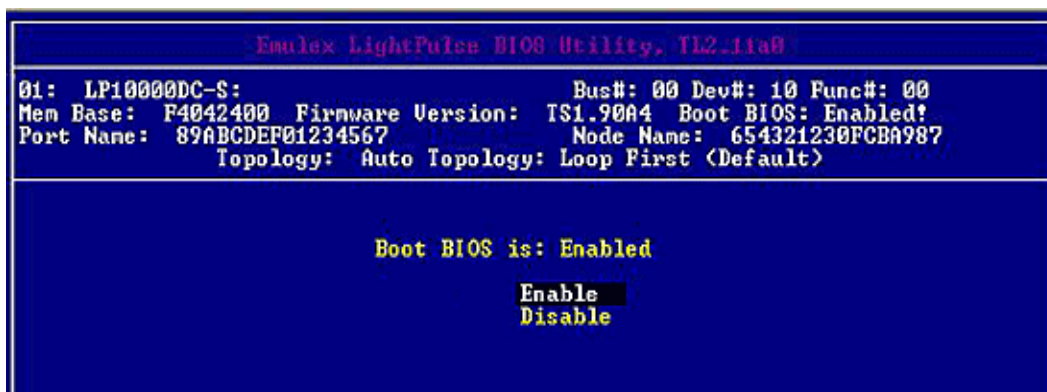

Figure 6-8 BIOS Enabled Screen
3. If the current status is disabled, select **Enabled** and press **<Enter>**. The status changes to enabled (Figure 6-8).